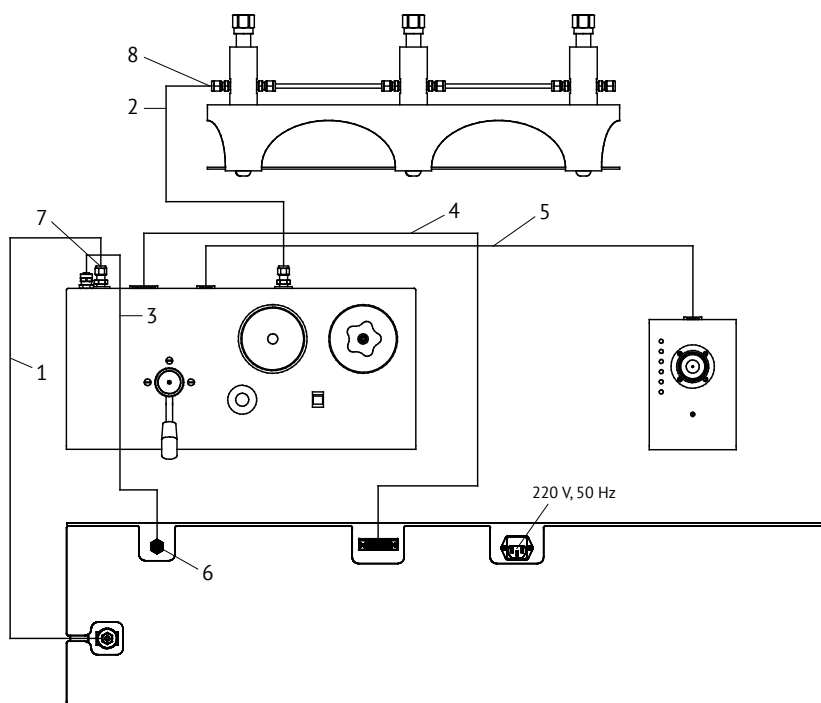

Fig. 7. GSKA units connection diagram:
6.2 Install the system in working place and connect it according to fig. 7.
6.3 Remove the pressure release valve and the bowl cover on the control unit, fill process liquid into the bowl. Disconnect plastic pipe 3 (Fig. 7) from the power unit in connection 6, having blanked it off with a finger. Gradually releasing the air with your finger fill the pipe with process liquid so that about 10 ... 15 cm of the pipe remain unfilled, with quick motion connect the pipe to the power unit and tighten the connection nut using wrench (with little effort, not to crush the pipe).
- disconnect completely connection 8, fig. 7, put under the end of the pipe a low container and pump the system in the mode of preliminary pressure generation until the contaminated process liquid ends flowing from the pipe, controlling, in this case, the liquid level in the tank;